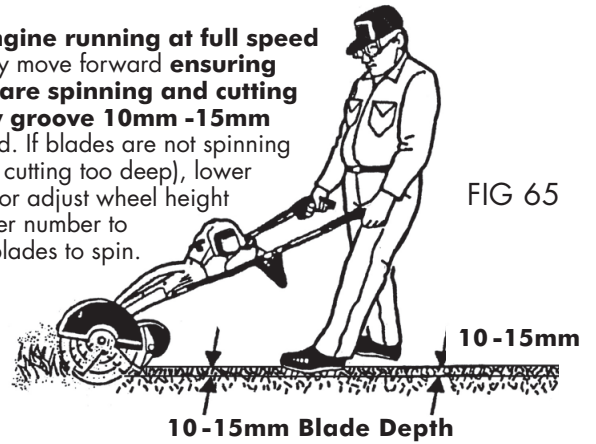

FIG 65
7. **With engine running at full speed** gradually move forward **ensuring blades are spinning and cutting shallow groove 10mm -15mm** in ground. If blades are not spinning (you are cutting too deep), lower handles or adjust wheel height to a lower number to enable blades to spin. Fig.65.